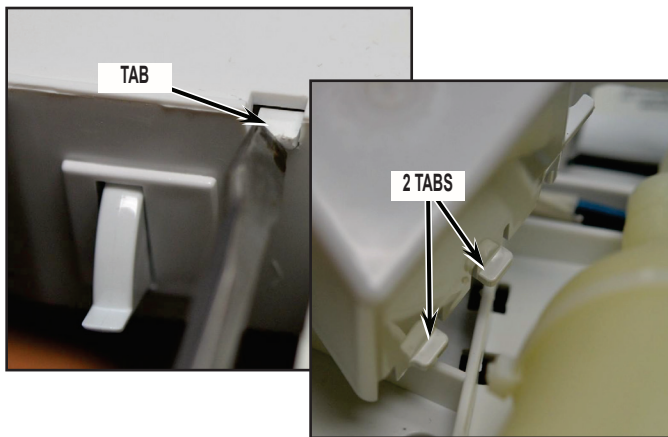

FIGURE 15
17. Depress tab and lift up on filter switch cover to disengage the 2 tabs on opposite side to remove cover. See *Figure 15*.